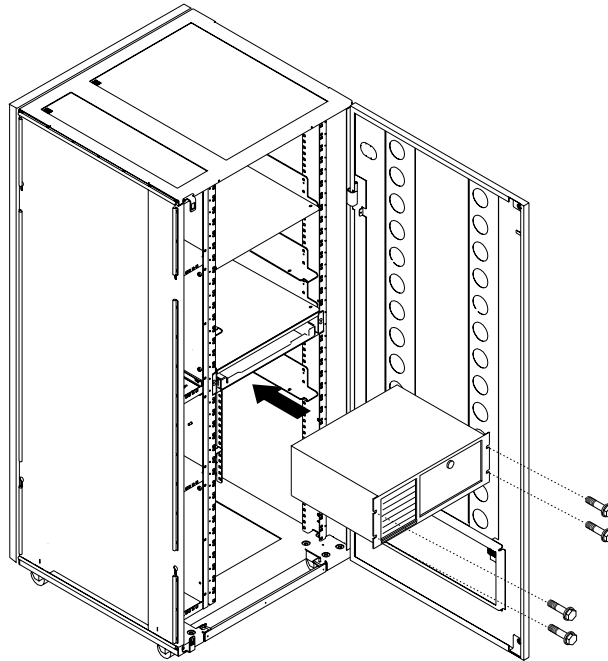

Figure 8. Installing the 7585 NNP-A Unit in the Controller Expansion (Front Side)
- 5. Slide the network node processor unit in the controller expansion from the front side as shown in Figure 8, then fasten the unit using four screws (PN 1621230).